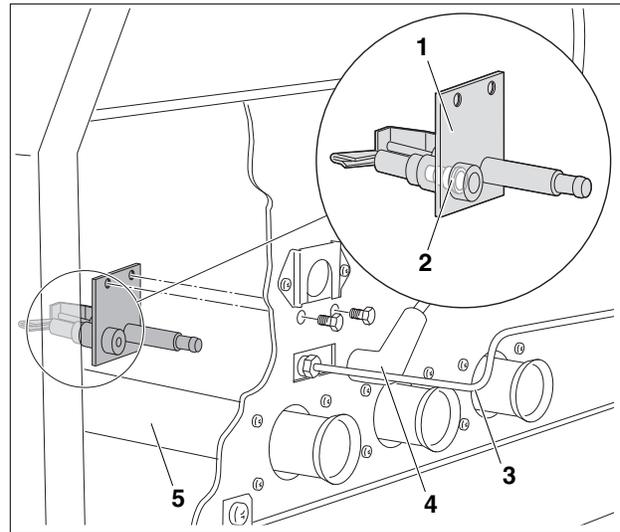

Fig. 7 Pilot assembly (Cut-a-way drawing)
15. Disconnect the pilot gas line (Fig. 7, **Item. 3**) from the pilot assembly (Fig. 7, **Item. 1**).
16. Remove the pilot orifice (Fig. 7, **Item. 2**).
17. Install the new orifice 390686-61 in the pilot assembly (Fig. 7, **Item. 1**).
18. Install the pilot gas tubing (Fig. 7, **Item. 3**) in the pilot assembly (Fig. 7, **Item. 1**).